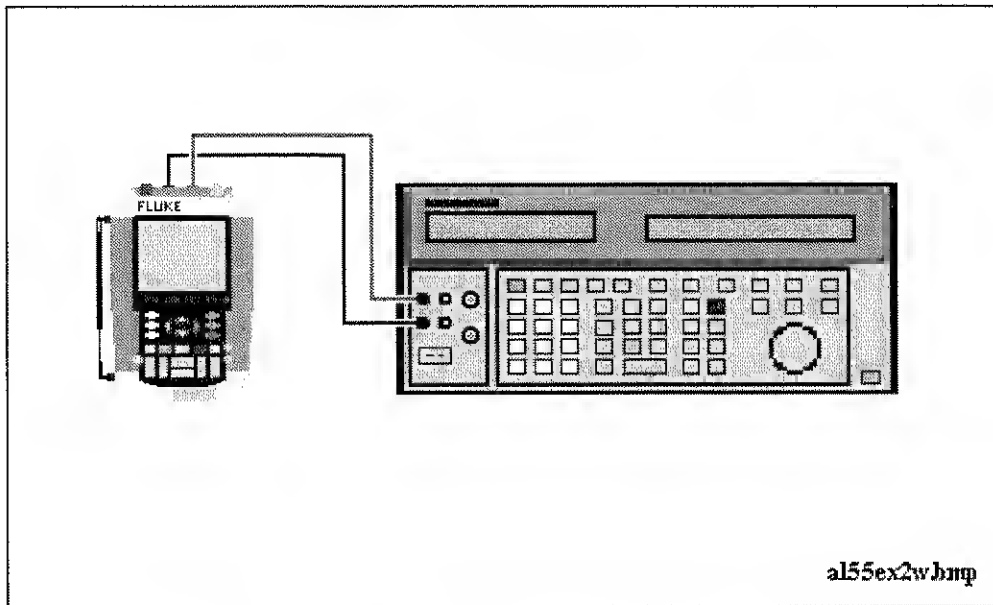

Figure 4-18. Test Tool Meter/Ext Input to 5500A Normal Output
1. Connect the test tool to the 5500A as shown in Figure 4-18.
1. Connect the test tool to the 5500A as for the previous test (see Figure 4-18).
2. Connect the test tool to the 5500A as for the previous test (see Figure 4-18).